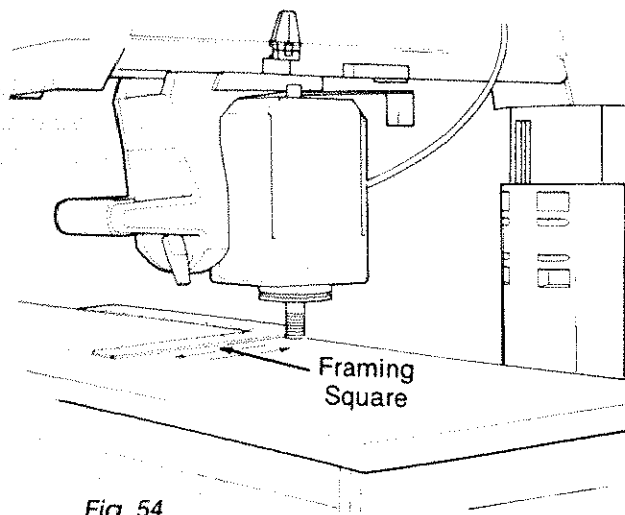

Fig. 54
7. Lay a framing square on the *front table* with the long edge along the back of the *table* and the short edge alongside the *motor arbor*. (Figure 54)
8. Move the framing square toward the *motor arbor* until the arbor and square touch each other. (Figure 54)
10. If the *motor arbor* moves away from the square or tries to "walk" on top of it, go to step 11. (Figure 54)
If the *motor arbor* moves away from the square or tries to "walk" on top of it, go to step 11. (Figure 54)